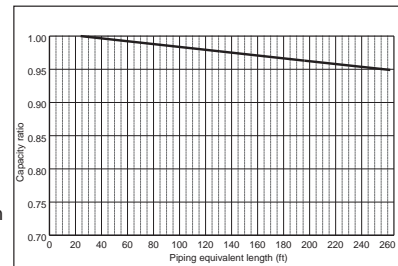

Figure 6 Correction of refrigerant piping length
- Piping Length Correction (100 ft) 0.96 (Refer to Figure 6)